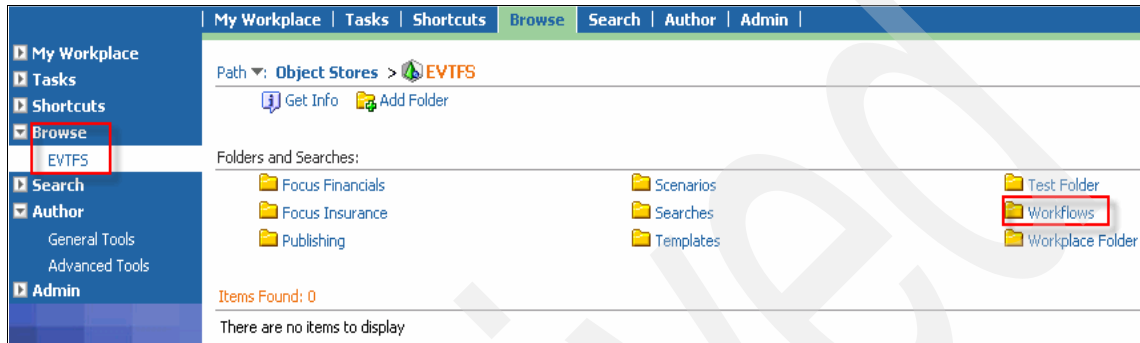

Figure 7-57 Browsing the Workflows folder
2. As shown in Figure 7-57, select **Browse** → **EVTFS** and click the **Workflows** folder.